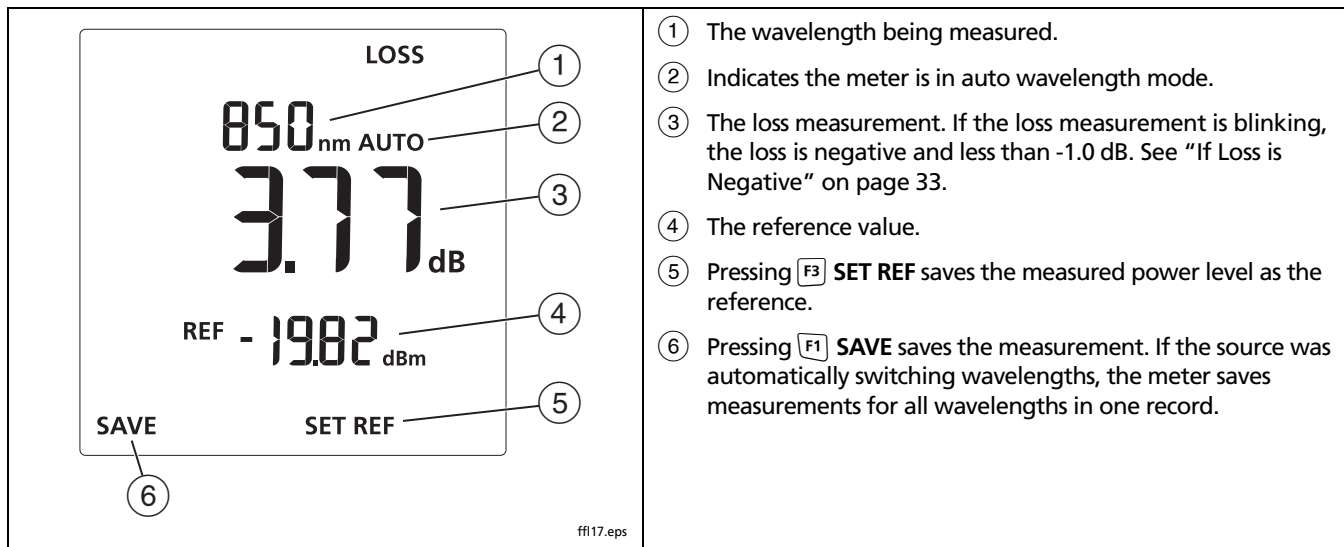

Figure 12. Loss Measurement Display
- 4 On the meter, press  until **LOSS** appears (Figure 12).